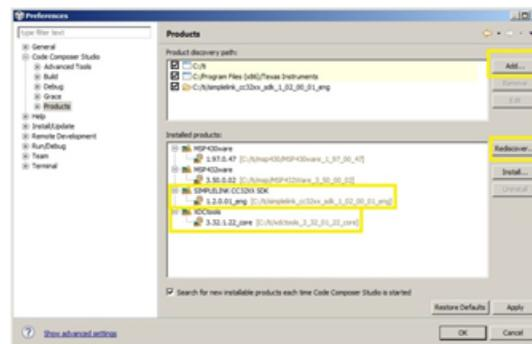

Figure 34. CCS Installed Products
- Choose Window → Preferences → Code Composer Studio → Products (see Figure 34).